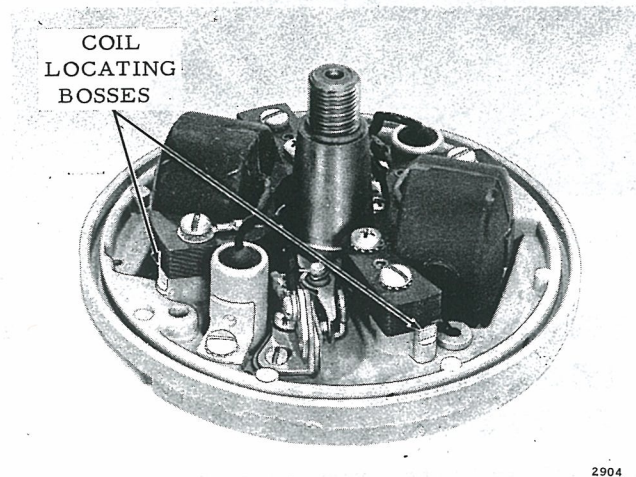

Figure 4-14. Coil Locating Bosses
a. Correct locating of the coil and lamination assemblies is governed by machined mounting surfaces on the armature plate. Coil lamination heels should be flush with machined surfaces. See Figure 4-14.